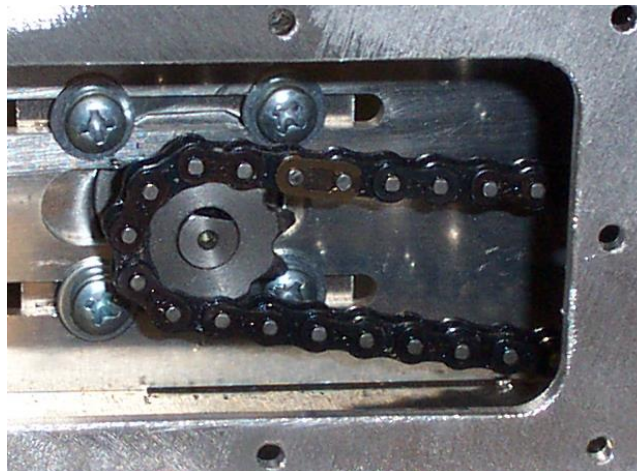

Figure 10: Master Link Installation
10. Install the master link as shown in Figure 10.